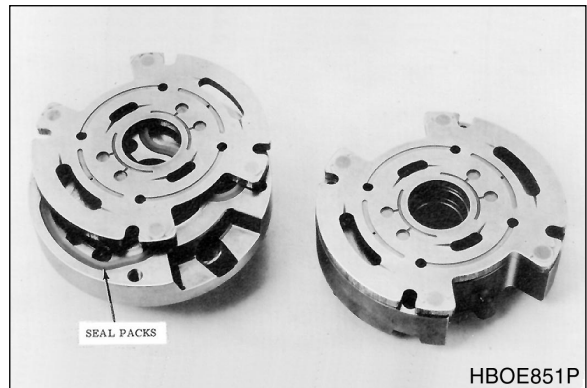

Figure 20
- A. Place inlet and outlet support plates on a flat surface as shown in Figure 20. Install seal packs into cavities with seal retainer surface up. (O-rings facing downward into cavities.)